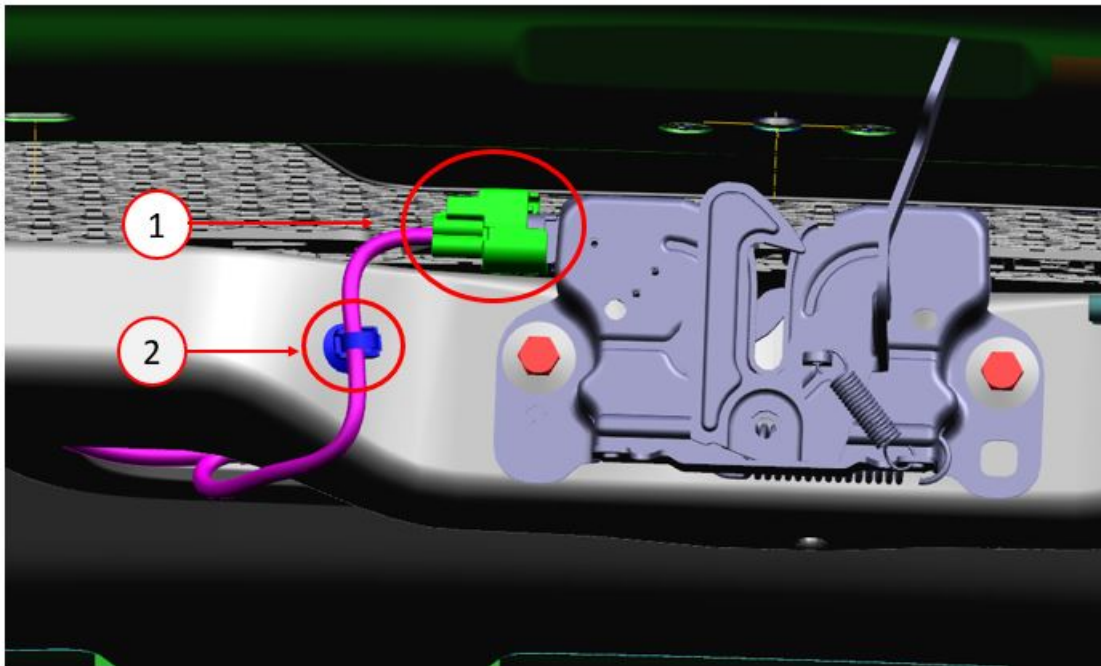

Fig. 2
5. Secure the jumper harness to the headlamp harness using Tesa tape (51036) or equivalent. Install a wire harness clip next to the latch (Fig. 2).
7. Add a tie straps to hold the jumper harness to the main harness next to the existing Xmas tree clips (Fig. 2).